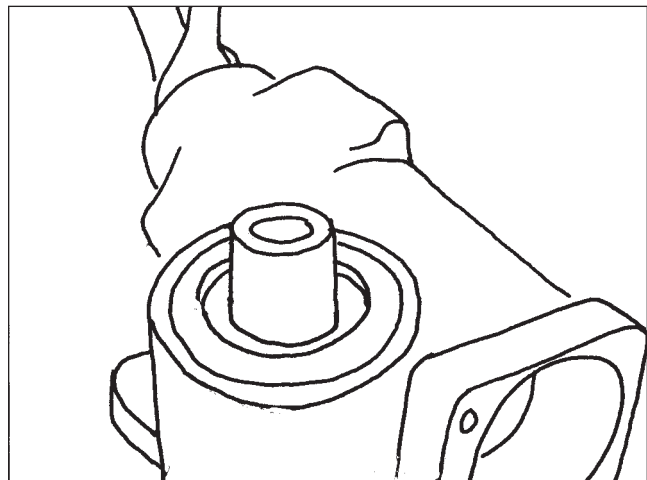

Figure 140
18. Install the sector shaft cover. Use the appropriate tools for the steering gear you are working on. Either snap ring pliers or suitable size socket. Torque to specifications (**Figure 140**).